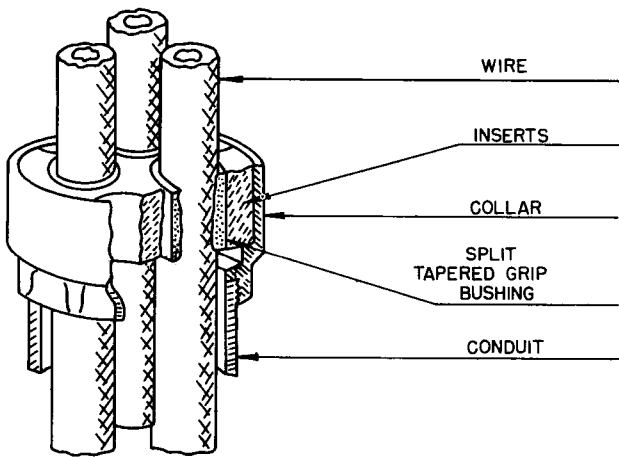
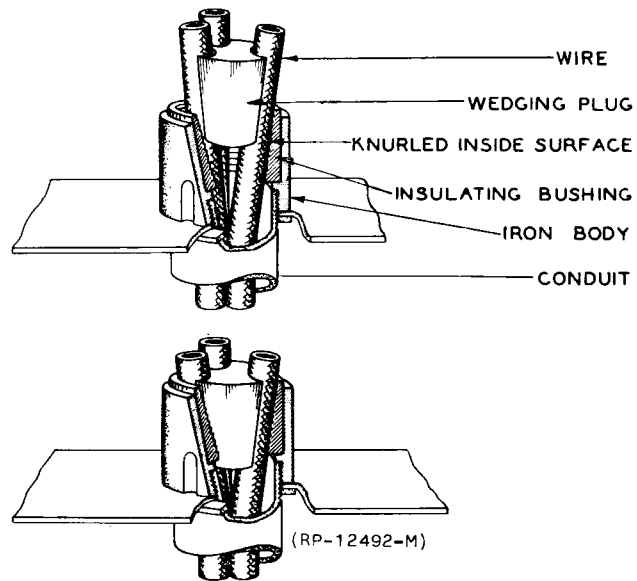

FIG. 2 RUSSELL AND STOLL SUPPORT
FIG. 3 O.Z. WIRE SUPPORT
5.11 Support leads in vertical conduit runs at the intervals listed in the following table. Pull boxes shall be installed at the various points of support as determined by the largest size lead and all leads entering the pull box from below shall be supported. Place a Russell and Stoll support (Figure 2), Adalet (similar to Figure 2) or O.Z. support (Figure 3) on the upper end of the conduit and use the inserts to hold the wire or wires in place.
5.12 When installing a Russell and Stoll support or Adalet support the collar is screwed on the end of the riser, the wires are then pulled in, the inserts dropped into socket of collar and the split tapered grip bushing placed over the individual wires which pull the grips into place by their weight. Slack between supports shall be allowed for the contraction and expansion of the wires. (Figure 2)
5.13 When installing an O.Z. support the collar is screwed on the end of the conduit, the cables are then pulled in, the wedging plug inserted and pushed down tight, as shown in Figure 3.
5.21 Support leads in vertical raceways and tile ducts at the intervals given in Paragraph 5.11 by Russell and Stoll, Adalet or O.Z. supports located in steel plates over the ducts. See Figure 3.